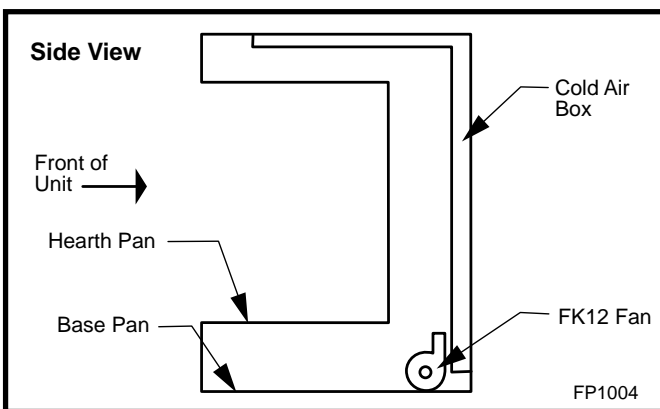

Fig. 29 FK12 Fan Kit placement.
2. Install FK12 fan in back of unit between hearth supports. (Fig. 29)